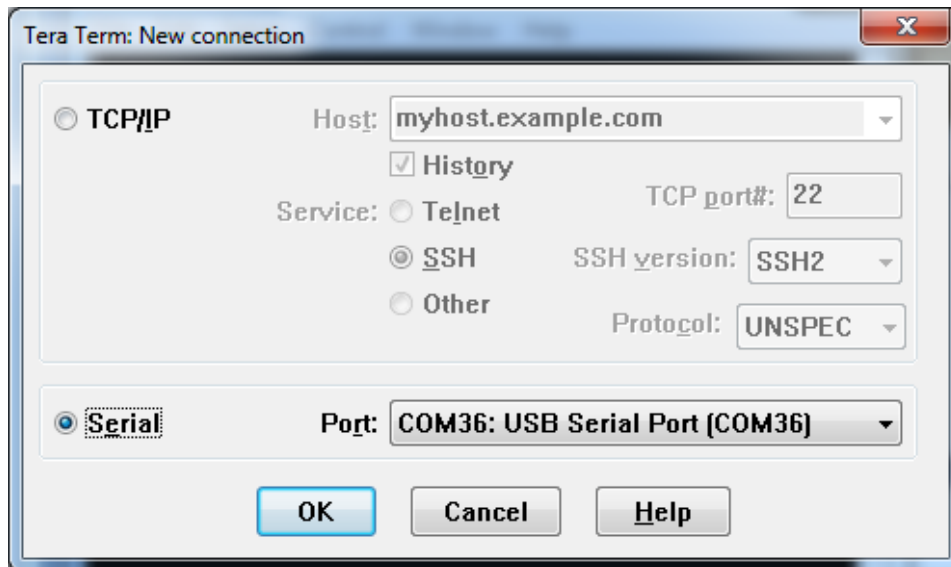

Figure 5 - Tera Term, select COM port
1. Start Tera Term and select the virtual COM port that was created when connecting the FTDI cable to your computer. See Figure 5 for an example of how the dialog window looks like for a new connection.